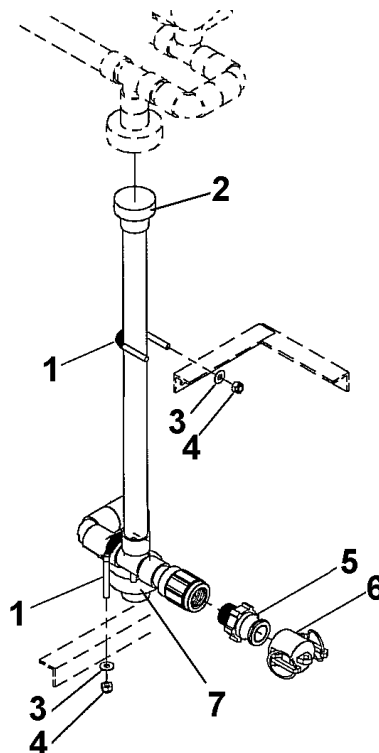

Figure 9. UF Reject Outlet Piping.
1. Loosen the unions (2 and 7). Remove nuts (4), washers (3) and remove U-bolt (1). See Figure 9.
2. Remove male camlock (5) and dust cover (6) only if necessary. See Figure 9.
1. Refer to Figure 9 for this piping.
4. Install the U-bolt (1) and fasten the lock nuts (4) washers (3) to the U-bolt (1).